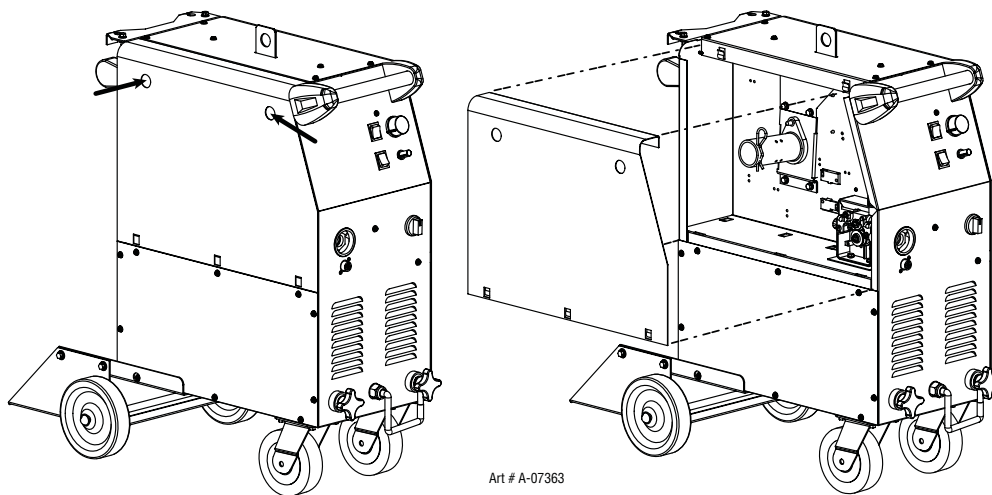

Figure 3-3: Door Panel Removal
- 1) Remove the door panel to the machine by inserting your left and right index fingers into the two holes marked with arrows in Figure 3-3 and firmly pull it towards you.